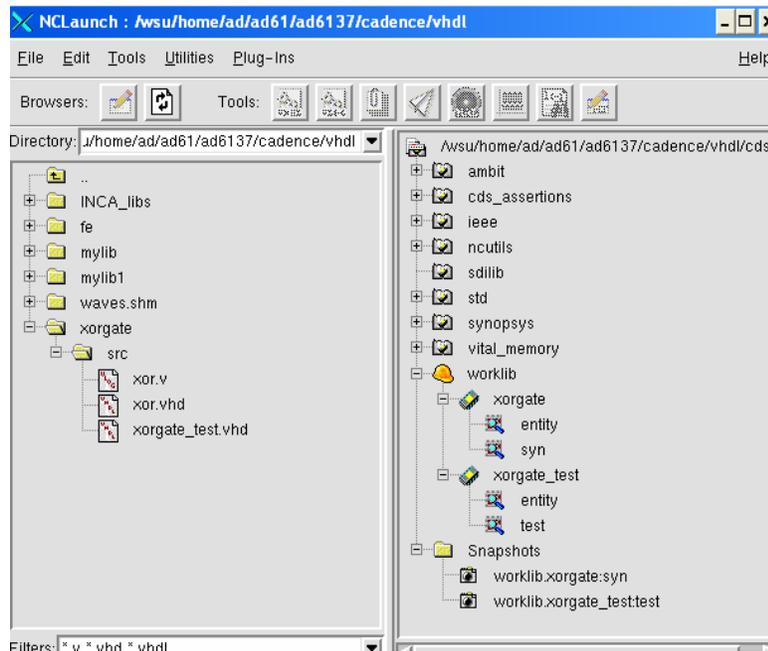

Figure 2. NCL Window showing file structure
- ◆ Expand the *xorgate* design unit (see Figure 2).
- ◆ (NCL)Design Area, in the snapshot folder, select **worklib.xorgate_test:test** (see Figure 2).